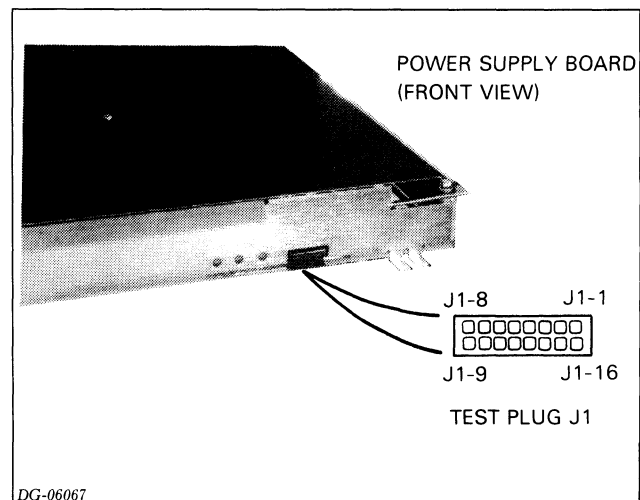

Figure 6.8 Test plug
2. Check the +5V voltage at test plug J1-15 (see Figure 6.8). If +5V is between 5.10V and 5.20V, go to "Final Checkout"; otherwise, continue the checkout.
- If -11V is NOT between -11.0V and -12.5V (-30VNR not ok), check the VREF at test plug J1-14 (see figure 6.8). If VREF is 5.8V, replace the VNR unit; otherwise, replace the power supply board.
- If -11V is between -11.0V and -12.5V (-30VNR ok), check the HVS voltage at test plug J1-4 (see Figure 6.8). If HVS is greater than 2.9V, replace the power supply board; otherwise, replace the VNR unit.
6. Recheck the +5V voltage at test plug J1-15 (see Figure 6.8). If it is between 5.10V and 5.20V, go to "Final Checkout"; otherwise, try replacing the internal cable (wiring harness). If this does not work, call DGC Field Service.
- Make sure the LOCK switch is in the UNLOCK position. If the fans still do not stop, check the **PWR FAIL** voltage at test plug J1-3 (see Figure 6.8).
- If **PWR FAIL** is less than 0.4V, check **PON** at test plug J1-11 (see Figure 6.8). If **PON** is less than 0.4V, replace the VNR unit; otherwise, replace the power supply board.